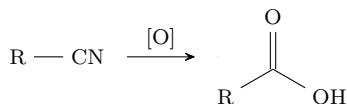

Figure 4.8: Nitrile hydrolysis.
- Hydrolysis of nitriles (Figure 4.8).